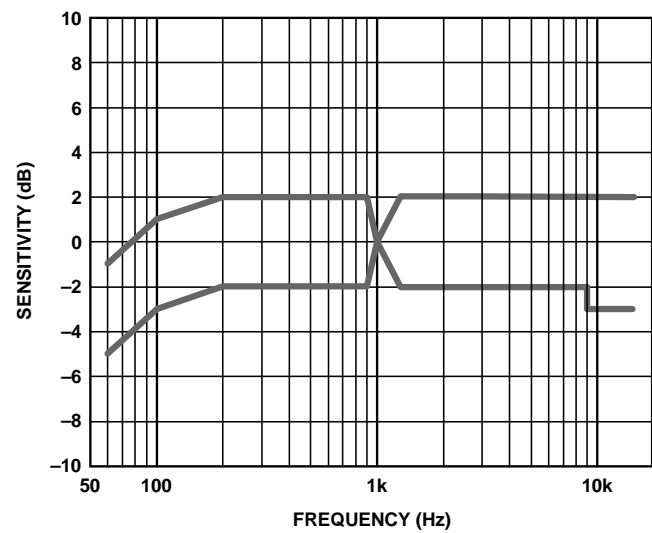

Figure 3. Frequency Response Mask
**Note 1:** See Figures 3 and 5.